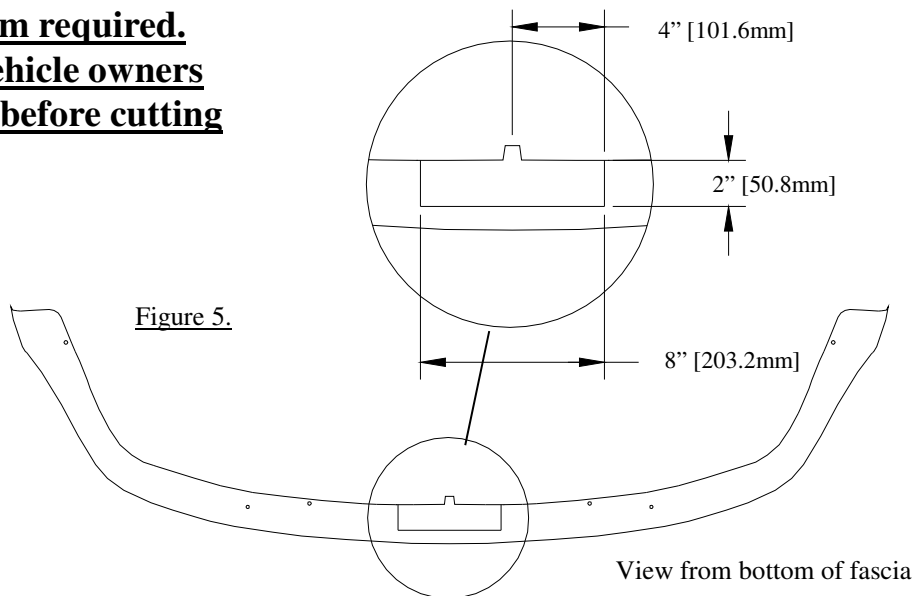

Figure 5.
6. Trim fascia using utility knife. Locate bottom center of the fascia mark 4" wide side to side x 2" high. (overall 8" wide X 2" high) (See Figure 5). Fascia trim required. Obtain vehicle owners approval before cutting